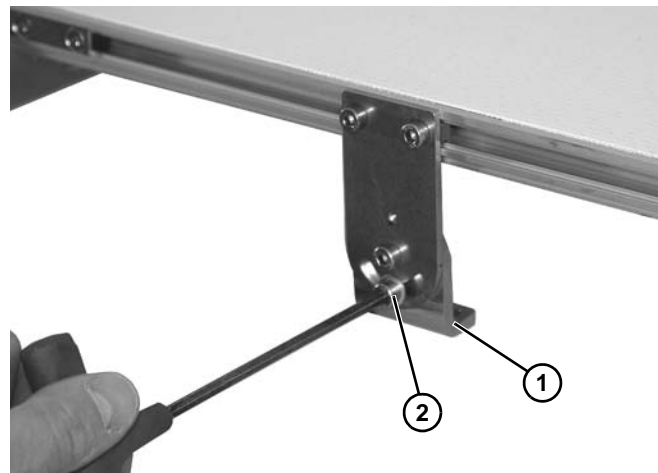

Figure 9
4. To adjust angle of pivoting bracket (**Figure 9, item 1**) loosen screw (**Figure 9, item 2**) and rotate pivoting bracket to desired position.
5. Tighten screw (**Figure 9, item 2**) to 15 in-lb (1.7 Nm).